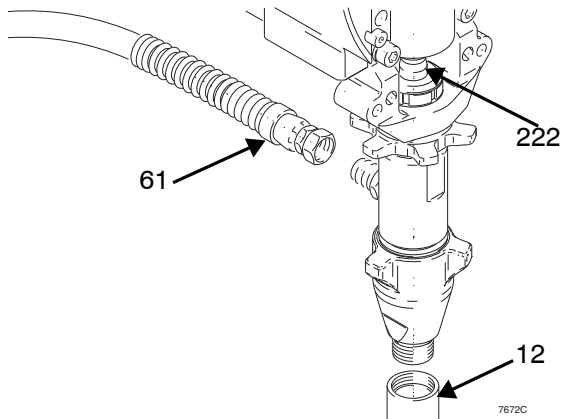

FIG. 8
3. Fig. 8. Cycle pump with piston rod (222) in its lowest position.
4. Fig. 8. Remove suction tube (12) and hose (61).